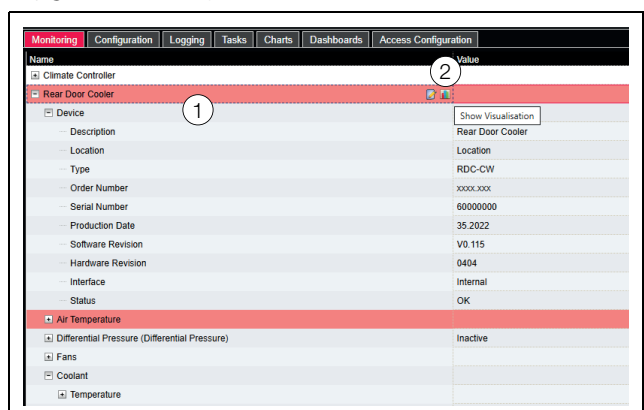

Fig. 106: Tree structure
If, after selecting the "Rear Door Cooler" level, the subordinate entries "Device", "Air", "Water" etc. are displayed (fig. 106, item 1), you can switch to the graphical representation as follows:
- Press the coloured "Graphics" symbol after the "Rear Door Cooler" entry in the form of a stylised diagram (fig. 106, item 2).
The display switches to the tree view (fig. 106) and the individual settings for the LCP Rear Door CW may be selected.